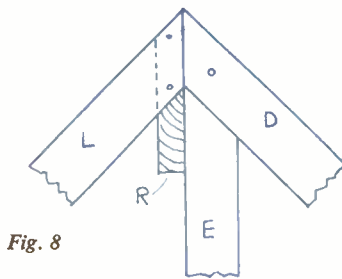

Fig. 8
The (L) section of the hut roof, as already indicated, butts up against (R) and (D) and (E), and is nailed to (R). See Fig. 8. The spar should be 1in. by 2ins. in section. The junction of (L) with (G), and (G) with (F) is straightforward, being halved jointing.